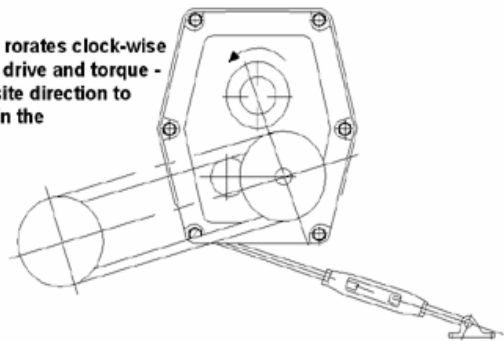

Fig. 2
2. Install motor belt drive with the belt pull at approximately 90° to the centre line between driven and input shafts. See Fig. 2. This will permit tensioning of the V-Belt drive with the torque-arm, which should preferably be in tension. If output hub rotates anti-clockwise, torque-arm should be positioned to the right. See Fig.3.